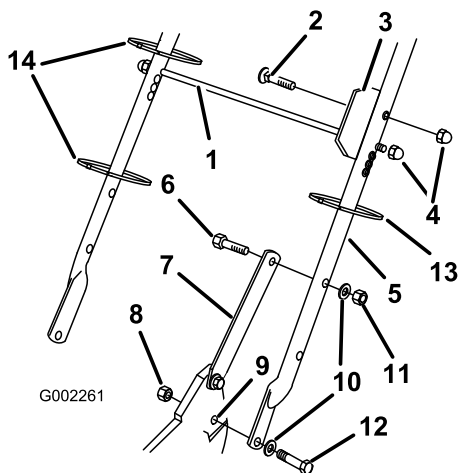

Figure 3
1. Mount the handle to the outside of the machine housing (using the bottom hole) with two bolts (5/16 x 1-1/4 inches), washers, and thin locknuts (5/16 inch) (Figure 3).
2. Secure the handle latches to the handle with 2 bolts (5/16 x 1-1/2 inches), washers, and locknuts (5/16 inch) (Figure 3).
3. Insert the carriage bolt through the bag aligning plate and the second from the top hole on the left side of the handle, and secure it with a cap locknut (Figure 3).
4. Slide the bag support rod through the third from the top mounting holes in the handle, and secure each end with a cap locknut (Figure 3).
5. Use cable ties to secure the control cables to the handle (Figure 3).